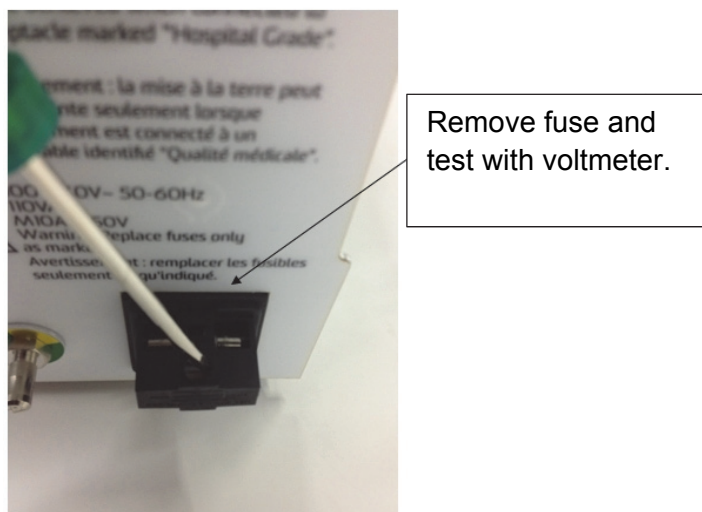

Figure 1
5. Verify the fuse is functional. The fuse is located in the Power Entry Module on the back of the unit. See figure 1. Remove the fuse and test resistance with a digital multimeter. Replace if necessary.